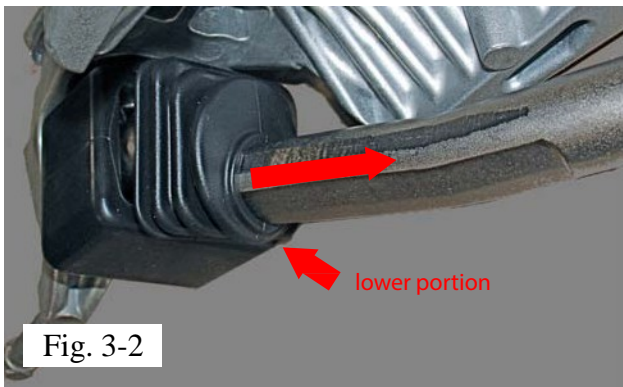

Fig. 3-2
- (b) Push/slide the bellow portion (Item 3b) of the 2 pc. rubber boot over the shift control shaft and rotate to ensure the shaft is coming out of the lower portion of the boot. (Fig. 3-2)
**Note:** Components shown in Fig. 3-2 are off vehicle for clarity purpose only.